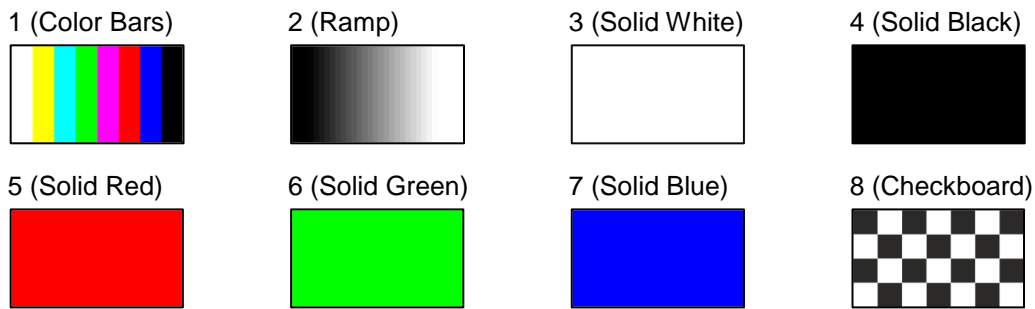

Figure 9: VS-44UHD Embedded Patterns
3. Press an input button to select a pattern (see Figure 9).